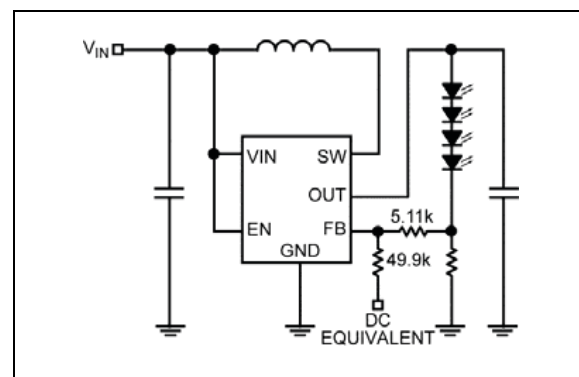

FIGURE 4-2: Continuous Dimming.
2. Continuous dimming control is implemented by applying a DC control voltage to the FB pin of the MIC2289 through a series resistor as shown in Figure 4-2. The LED current is decreased proportionally with the amplitude of the control voltage. The LED intensity (current) can be dynamically varied applying a DC voltage to the FB pin. The DC voltage can come from a DAC signal, or a filtered PWM signal. The advantage of this approach is that a high frequency PWM signal (>10 kHz) can be used to control LED intensity.